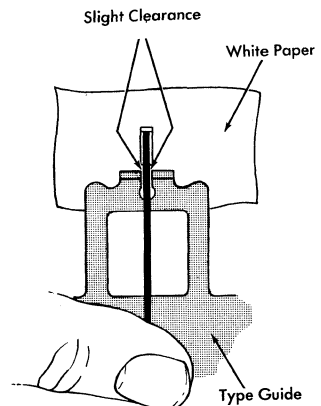

Figure 7. Typebar Centered in the Type Guide
1. After a new typebar is installed, first check it to see that it enters the type guide without striking either side of the guide. A piece of white paper placed behind the type guide, but in front of the ribbon, helps in observing that there is a slight clearance between the typebar and the sides of the guide when the typebar is moved slowly into the guide by hand (Figure 7). The typebar may be formed to the right or to the left until it enters the guide centered. To do this forming, hold the typebar near the bottom with a pair of pliers and, with a type aligning wrench, adjust the upper part of the typebar enough to align it with the guide.